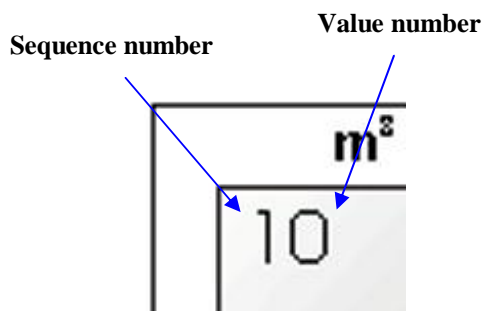

Fig 3.1b, sequence number, value number together form display sequence.
1. Display sequence, in this case “10”, default position, (the position the calculator returns to after 60 seconds of “push-button” inactivity). The digit “1” displays the sequence and the “0” displays the order in the sequence. The digits together form the display sequence “10”, see also fig. 3.1b (below).